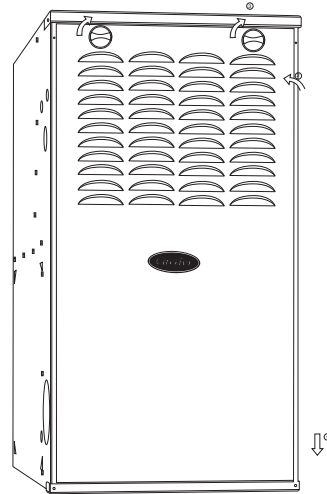

Fig. 9 – Furnace Door Replaced
- Replace the outer door and tighten the thumbscrew, see Fig. 9.
- Replace the outer furnace door, see Fig. 9.